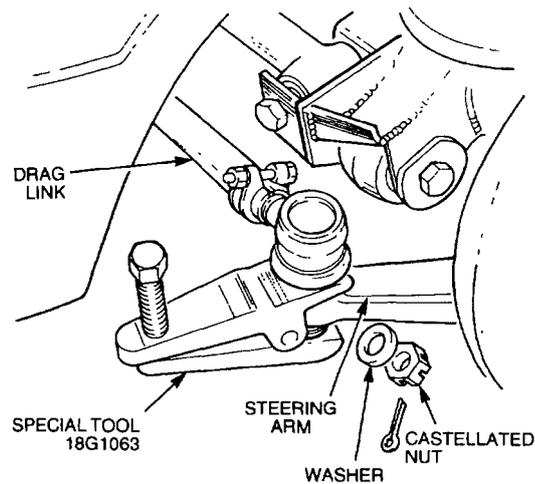

Figure 75 Drag Link Removal
- q. Remove the split pin, castellated nut and washer securing the drag link to the steering arm. Using special tool 18G1063, disconnect the drag link (Figure 75) and discard the split pin.